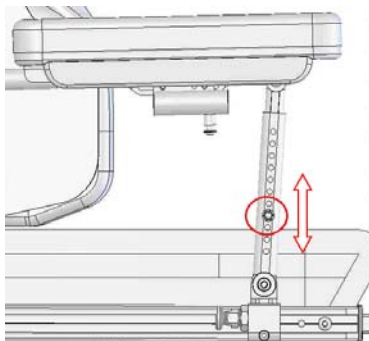

Figure 5-69
5.3.4.2.18 Use the #4 Allen Key Wrench and the #10 box end Wrench to remove the screws and nuts. Adjust the armrest to accommodate the user's arm position and flexibility (Figure 5-69). Re-tighten the screws.